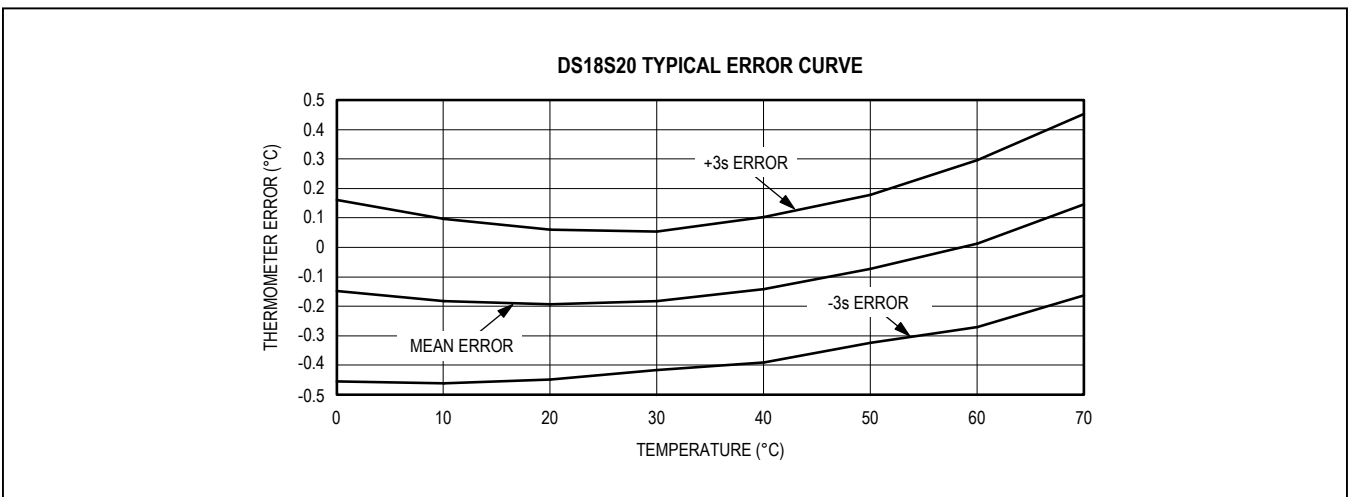

Figure 1. Typical Performance Curve
**Note 3:** See typical performance curve in Figure 1.